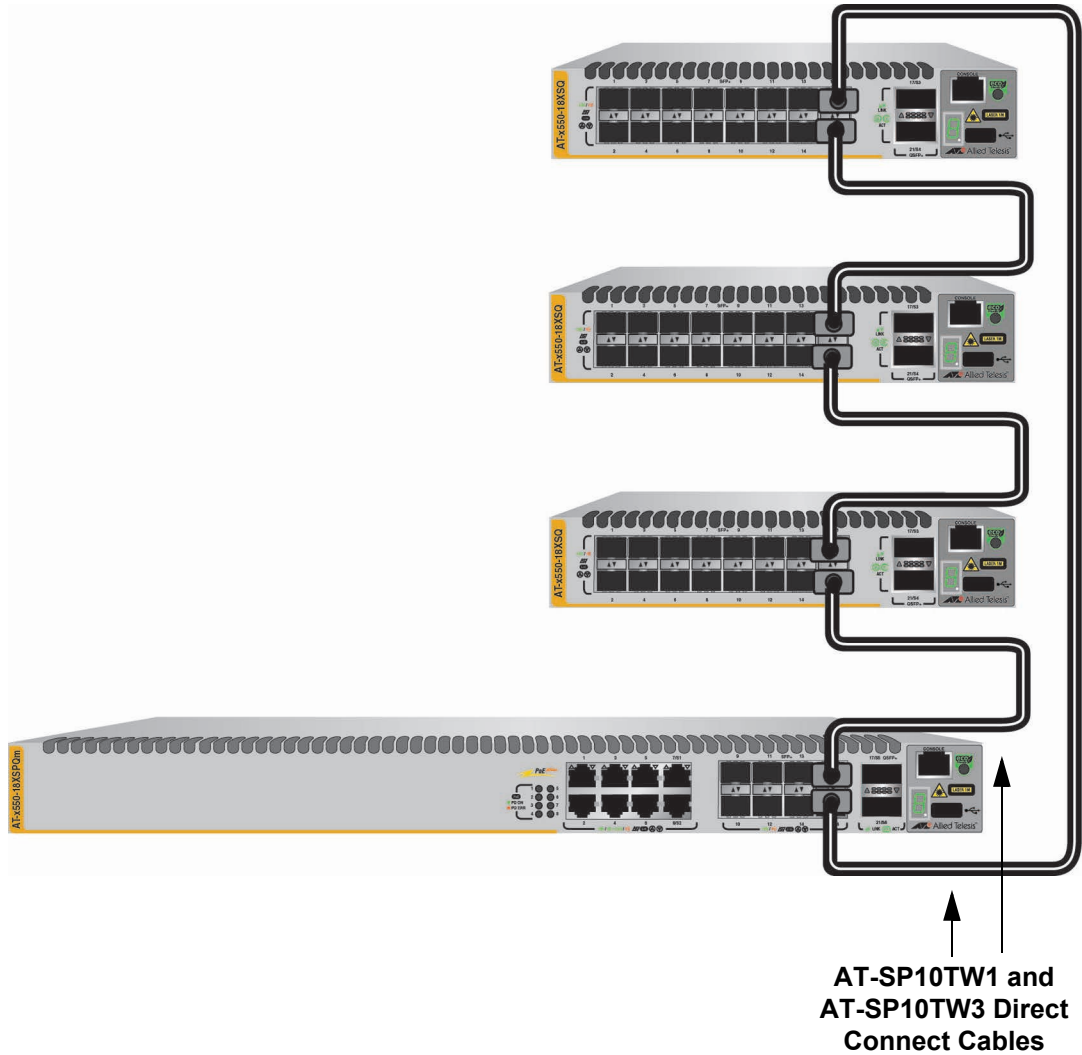

Figure 24. Example of a 10Gbps Stack Trunk with AT-SP10TW1 and AT-SP10TW3 Direct Connect Cables
- ❑ You can use the 1-meter AT-SP10TW1 and 3-meter AT-SP10TW3 direct connect twinax cables to build 10Gbps trunks for AT-x550-18XSQ and AT-x550-18XSPQm Switches that are in the same or adjacent equipment racks. Refer to Figure 24.